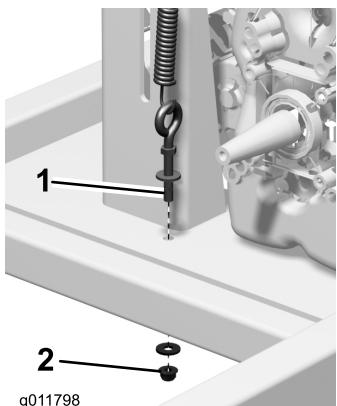

Figure 56
A. Loosen the lower nut on the eye bolt and thread it to the end of the bolt (Figure 56).